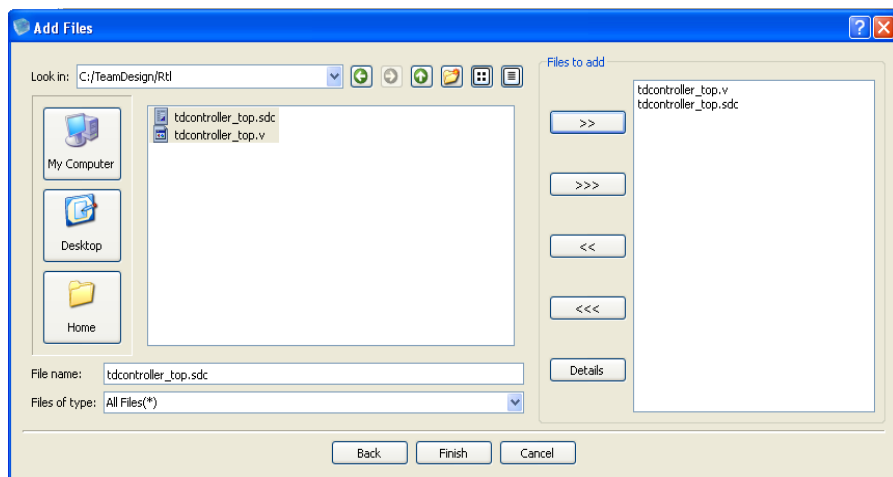

Figure 9-4 : Add RTL Files to top Project
4. Add the top level design file into the project as shown in Figure 9-4. Click on Finish to get back to the iCEcube2 tool.